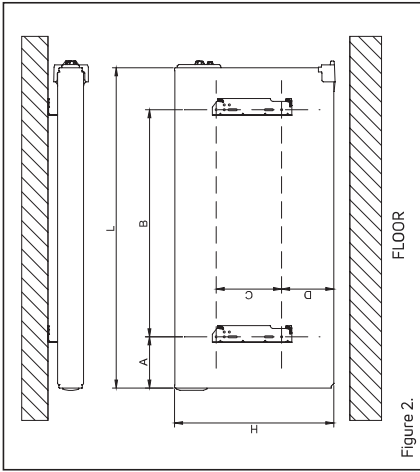
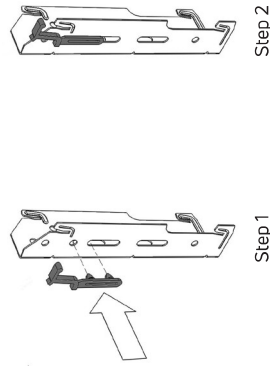

Figure 2.
Figure 3.
- Mark out the distance between the brackets and the positions for the screw holes as shown in figure 2 and the dimension tables at the top of page 7, and ensure the safety clips are used (see figure 3).
**FINESSE Double Panel (refer to figure 2)**